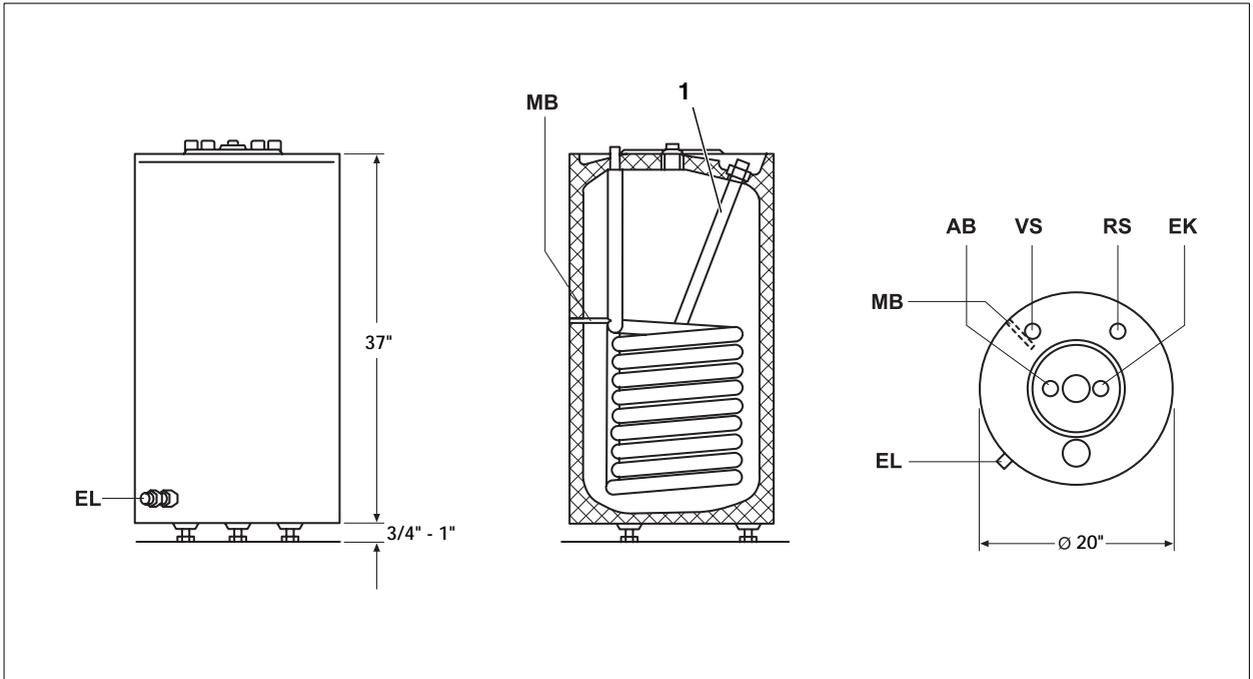

Fig. 4 Dimensions and piping connections (measurements in inches)
- Install furnished 3/4" brass couplings with teflon tape provided on other three tappings located on top of the tank. (See Fig. 4 for details)